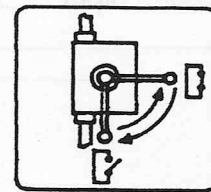

Fig.2
- 1) Turn the valve lever on the cylinder to allow oil to pass through (Fig. 2).